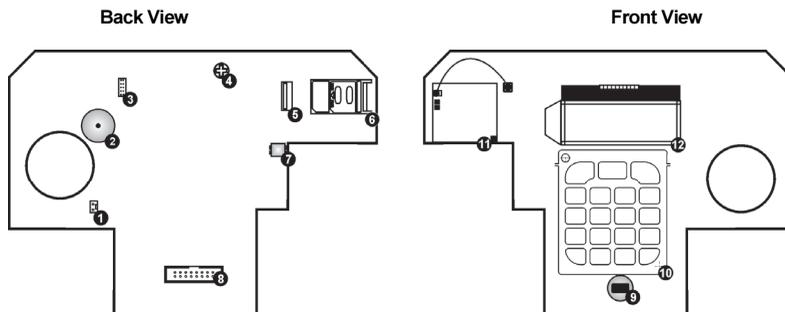

Figure 1-2: Main Board
The Main Board (see Figure 1-2) enables GSM and GPRS communication that allows reporting events to the Central Station send or receive SMS messages, implement cellular Two-Way Audio and remote software update.
3. Open the SIM card holder on the Main Board; insert the SIM card* (see p. 5, Figure 1-2).